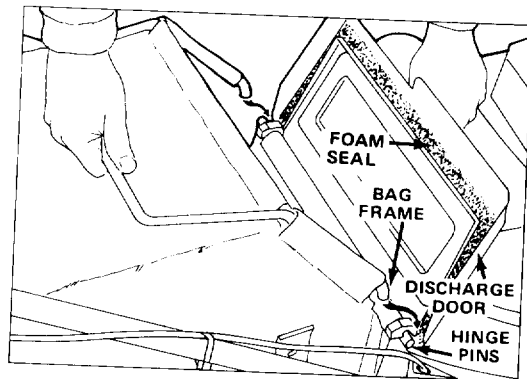

Figure 12
2. **INSTALLING BAG** – Raise discharge door and hook bag frame onto hinge pins (Fig. 12). Allow bag to rest on mower housing over discharge opening. Close door and make sure it seals around top of bag opening.